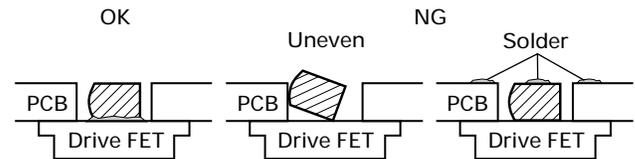

Fig. 3
5. The solder melts and binds the FET and the cube securely. Then, slide the soldering iron along the PCB surface to cool the soldering down (④). If the heat conductor cube comes off from the PCB or the soldering can be seen on the top of the plate, the soldering has not been successful. The soldering must bind the heat conductor cube and FET securely (see the figure 3).